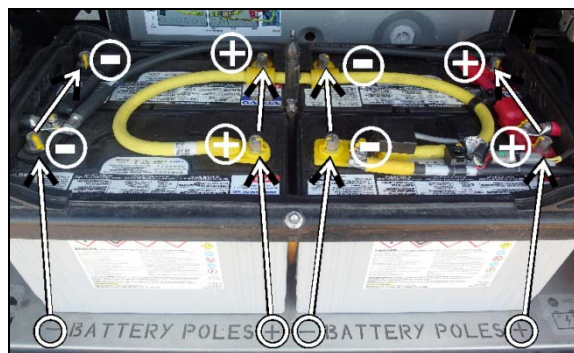

FIGURE 37: BATTERY BANK
1. To respect battery polarity in the arrangement, positive (+) and negative (-) signs are laser cut on the battery deck steel sheet. When installing the batteries, place the battery negative and positive poles according to the signs on the battery deck (Figure 37).